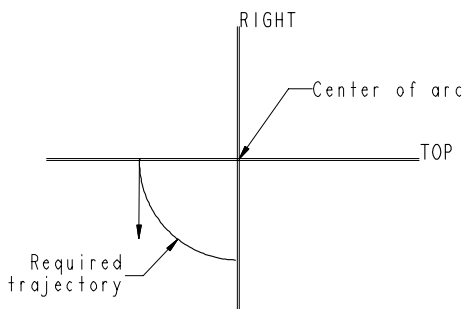

Figure 8-89 The sketch of required trajectory
- b. Create the base feature, refer to Figures 8-89 through 8-91.
2. Draw an arc such that the center of the arc lies at the intersection of the **TOP** and **RIGHT** datum planes, as shown in Figure 8-89. As you specify the center of the arc, the cursor snaps to the point of intersection of the two planes. Now, draw the arc and exit this tool. The endpoints of the arc are automatically aligned to the **TOP** and **RIGHT** datum planes. You will notice that an arrow is attached at the start point of the trajectory. This arrow points in the direction of sweep.